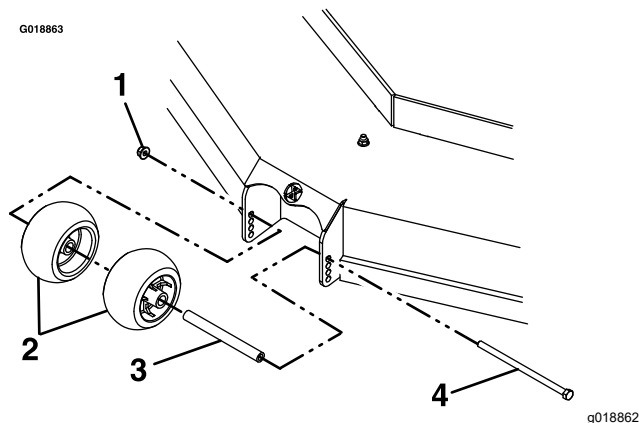

Figure 29
4. After adjusting the height of cut, adjust the anti-scalp rollers by removing the mounting hardware (Figure 29).
6. Torque the locknut (3/8 inch) to 41 to 47 N·m (30 to 35 ft-lb) as shown in Figure 29.